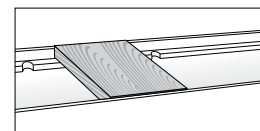

Figure 2: Wood Spacers
2. Insert wooden spacer (by others) to the installation housing to provide additional stability when finishing the surface. [Figure 2]